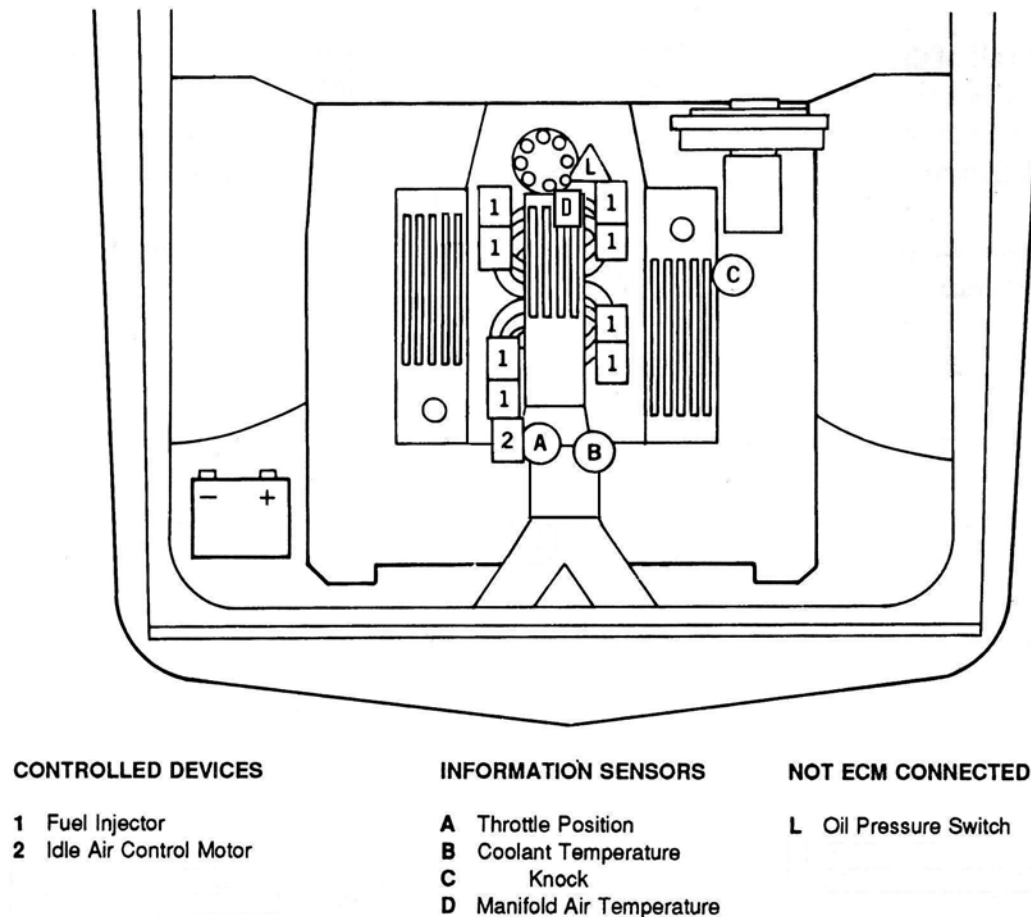

Figure 6.4 Engine Compartment Overview
- 6.3.3 Using **Figure 6.4 on p.15** and **Table 6.1 on p.16** connect the wiring as directed.